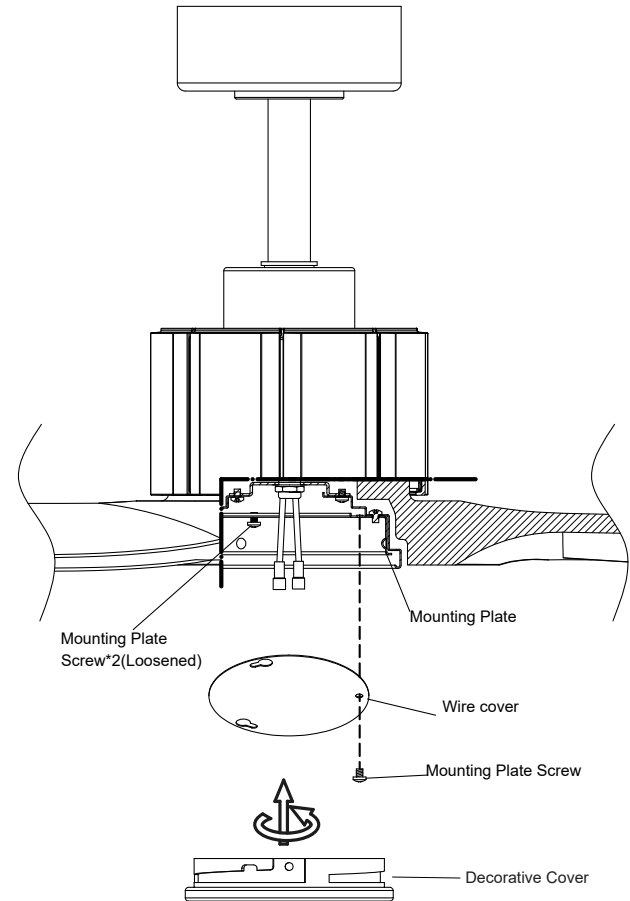

Fig. 16
Step 1. Loosen two of the mounting plate screws on the mounting plate, and remove and save the third mounting plate screw. (**Fig. 16**)
Replace the third mounting plate screw that was previously removed, and tighten all 3 mounting plate screws to secure. (**Fig. 16**)
Step 3. Raise the decorative cover up to the fan, seat against the mounting plate, and turn clockwise into the mounting plate until snug, **DO NOT OVER TIGHTEN**. (**Fig. 16**)